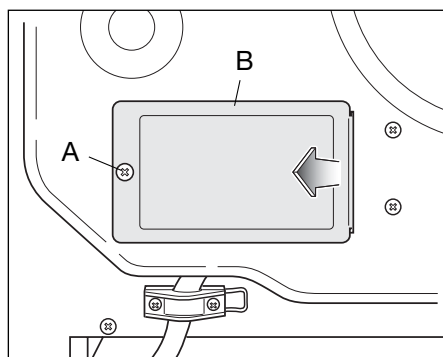

Figure 9
- Unscrew the screw A securing the cover plate B behind the oven (fig. 9).